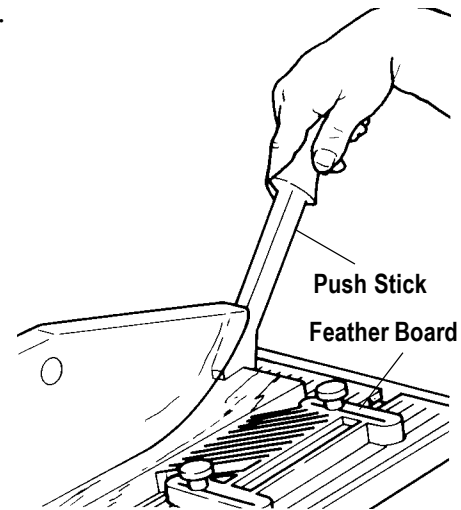

Figure C-7
3. Turn the machine on and set the correct speed. Feed the stock into the blade while keeping it pressed firmly against the fence. Use a push stick or push block to finish the cut. See Figure C-7.